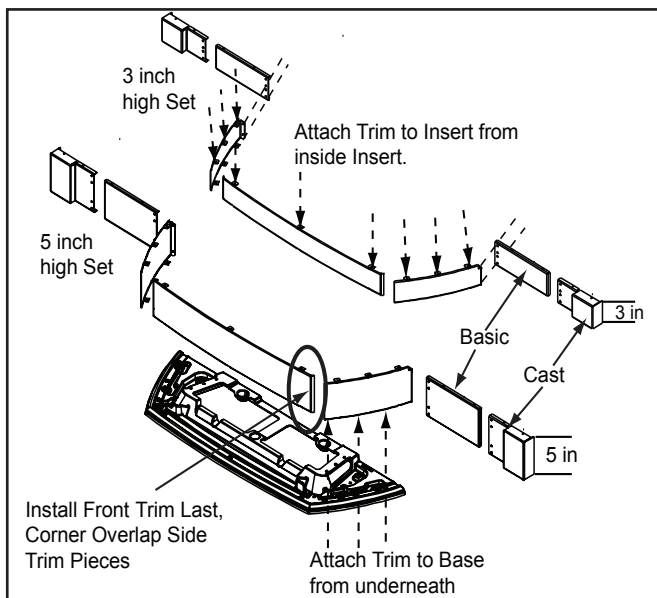

Figure 19.2
4. Lay the cast bottom face up. Attach the 2 sides FIRST and then the front piece. **Figure 19.2.**